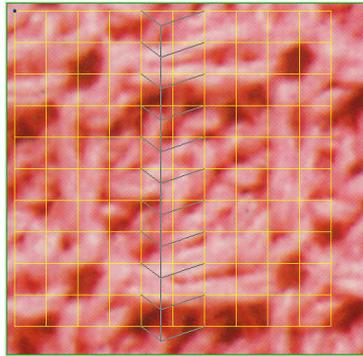

Figure 6-23D Select line to adjust
- ii. Move the cursor to the new position of the line. (Figure 6-23D).